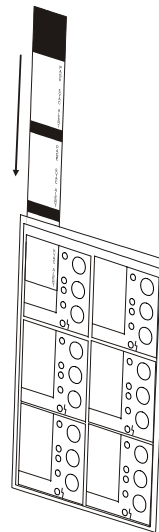

Figure 6 Inserting A Label into The Back Of The FCM-6S
- After completing the label strip, insert in back into its slot (See Figure 6).